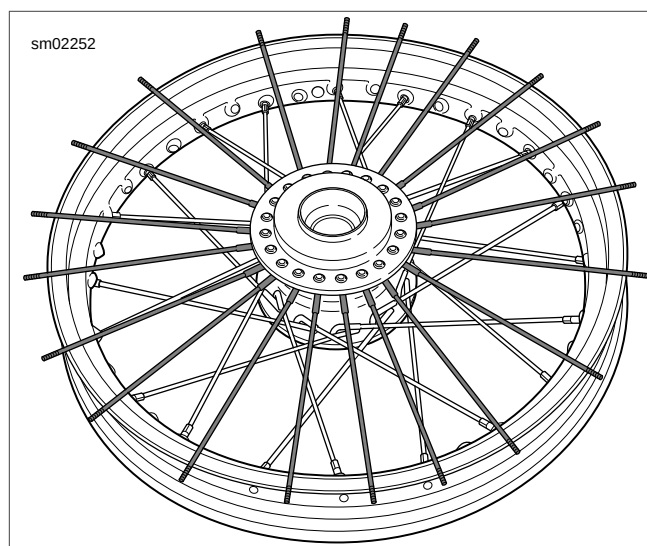

Figure 2-38. Fanning Top Flange Spokes
15. See Figure 2-38. Undo each top bundle and fan the spokes out (in a starburst pattern) around the top rim edge.